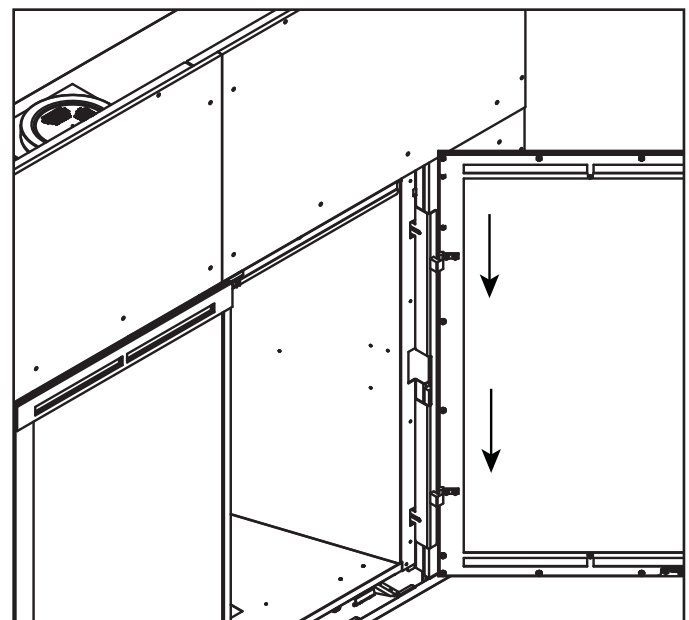

Figure 6. Installing Doors
6. Install left and right doors by engaging the receiver hinge on the door to the hinge blocks on the door bracket. See Figure 6.